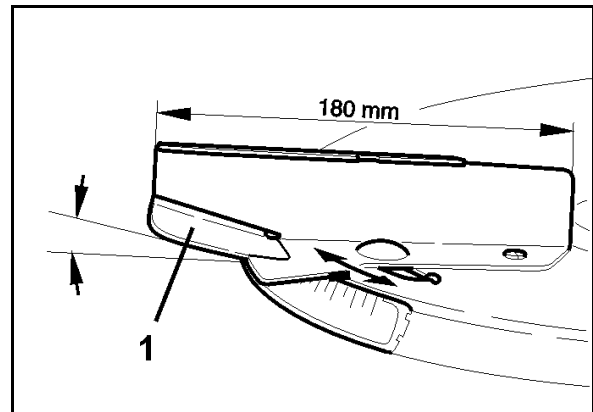

Fig. 58
The shorter spreading vanes are equipped with swivel blades that can be pivoted up without using tools (Fig. 58/1) and allow late topdressing of grain up to a crop height of 3,3 ft / 1 m **without** additional accessories.
3. Swivel the swivel blades (Fig. 58/1) of the spreading vanes to the required position for normal fertilising or late top dressing.